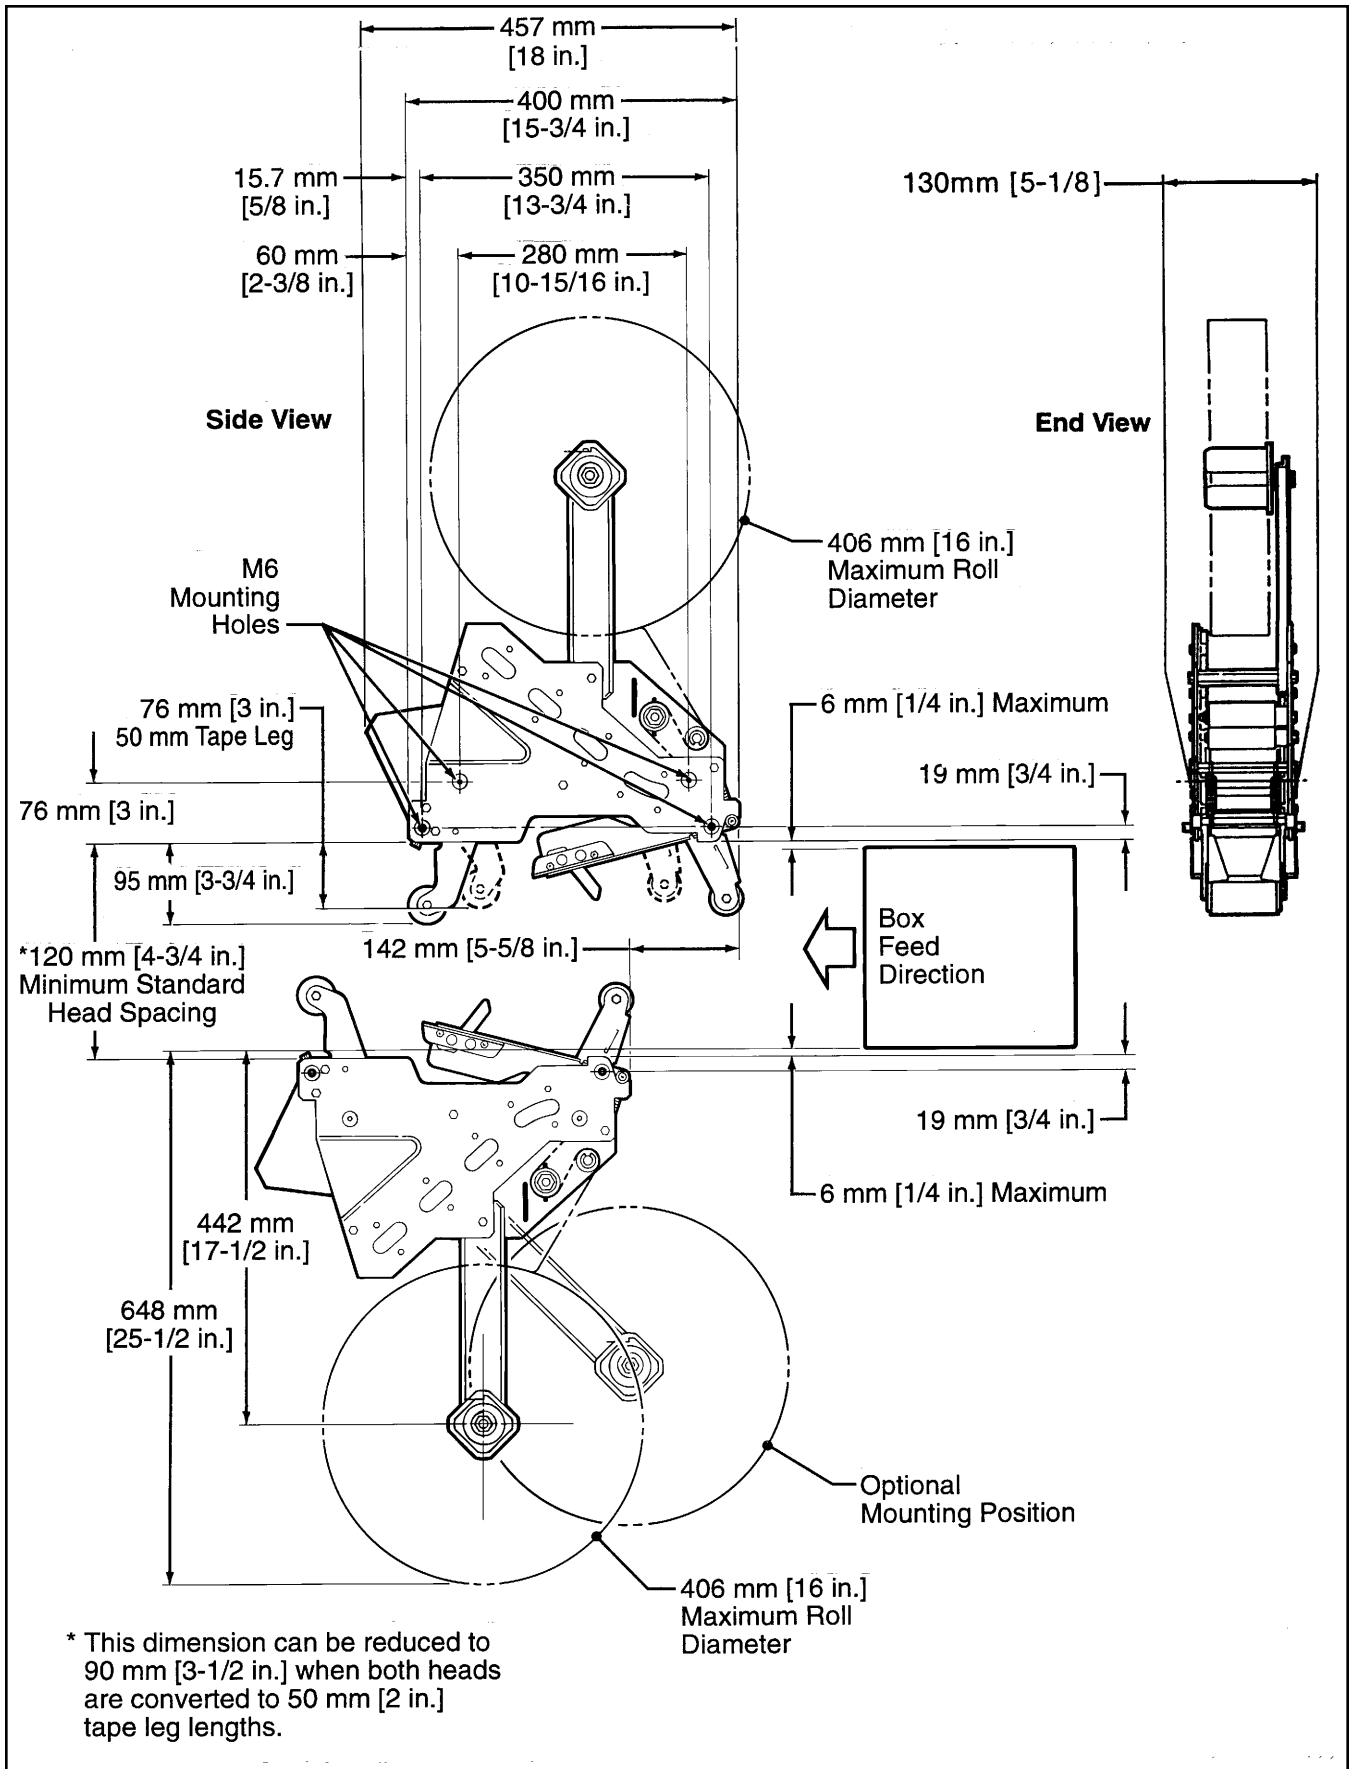

Figure 2-1 – Dimensional Drawing
The taping head assembly can be used in converting existing or in custom made machinery. It can be mounted for top taping or bottom taping. Refer to "Box Size Capacities," as well as Figure 2-1 in the Specifications section, for the following points in making such installations:
3. Figure 2-1 illustrates the typical mounting relationship for opposing taping head assemblies to allow taping of box heights down to 90 mm [3-1/2 inches]. **To tape box heights down to 70 mm [2-3/4 inches], the taping heads must be completely staggered so only one tape seal is being applied at one time.**